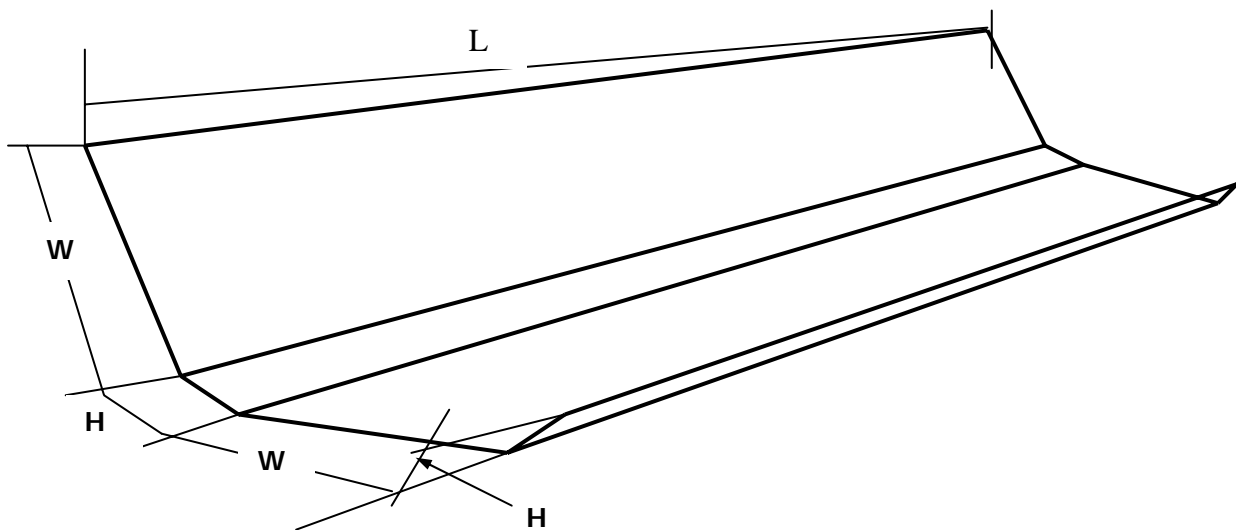

Figure 11: Folded main section of Mattress.
6.2: Fold or mark this piece to show where the edges of the mattress will be, as shown in Figure 11.